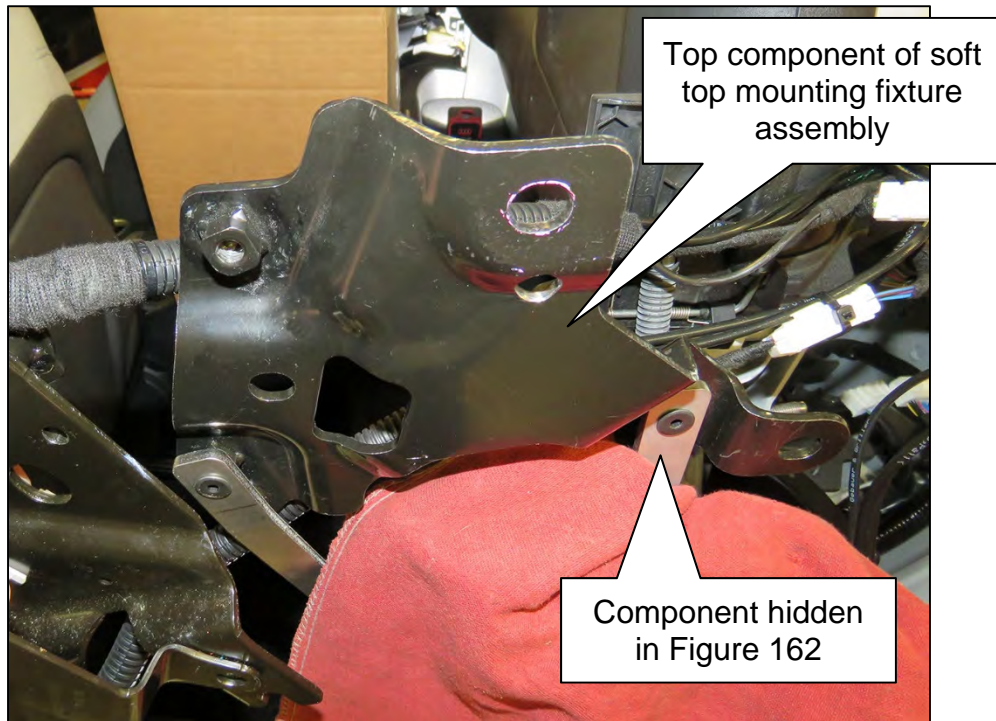

Figure 163
- One (1) of the two (2) soft top mounting fixture struts is hidden in Figure 162. See Figure 163 on page 68 for hidden fixture strut.